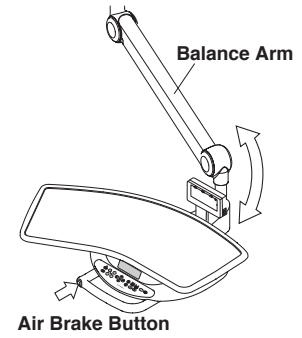

Fig.3-18 Balance Arm Air Brake
(7) Balance Arm Air Brake (Fig.3-18)